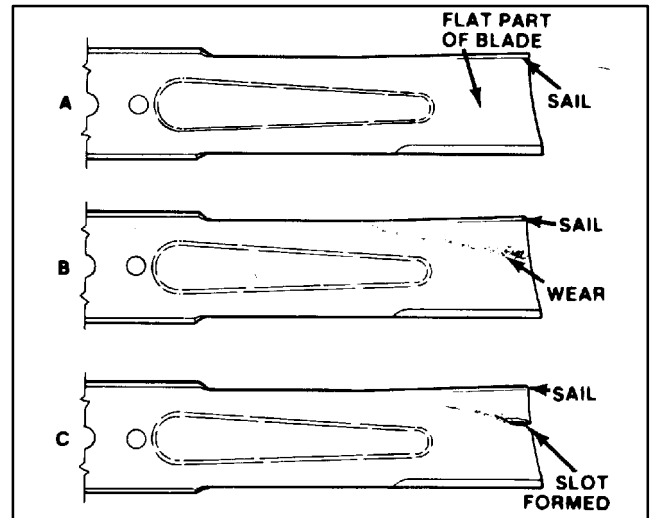

Figure 13
(Fig. 13–14)
2. Examine cutting ends of the blade carefully, especially where the flat and curved parts of the blade meet (Fig. 13–A). Since sand and abrasive material can wear away the metal that connects the flat and curved parts of the blade, check the blade before using the machine. If wear is noticed (Fig. 13–B), replace the blade: refer to Removing Cutter Blade.
If blade is allowed to wear, a slot will form between the sail and flat part of the blade (Fig. 13–C). Eventually a piece of the blade may break off and be thrown from under the housing, possibly resulting in serious injury to yourself or bystander.